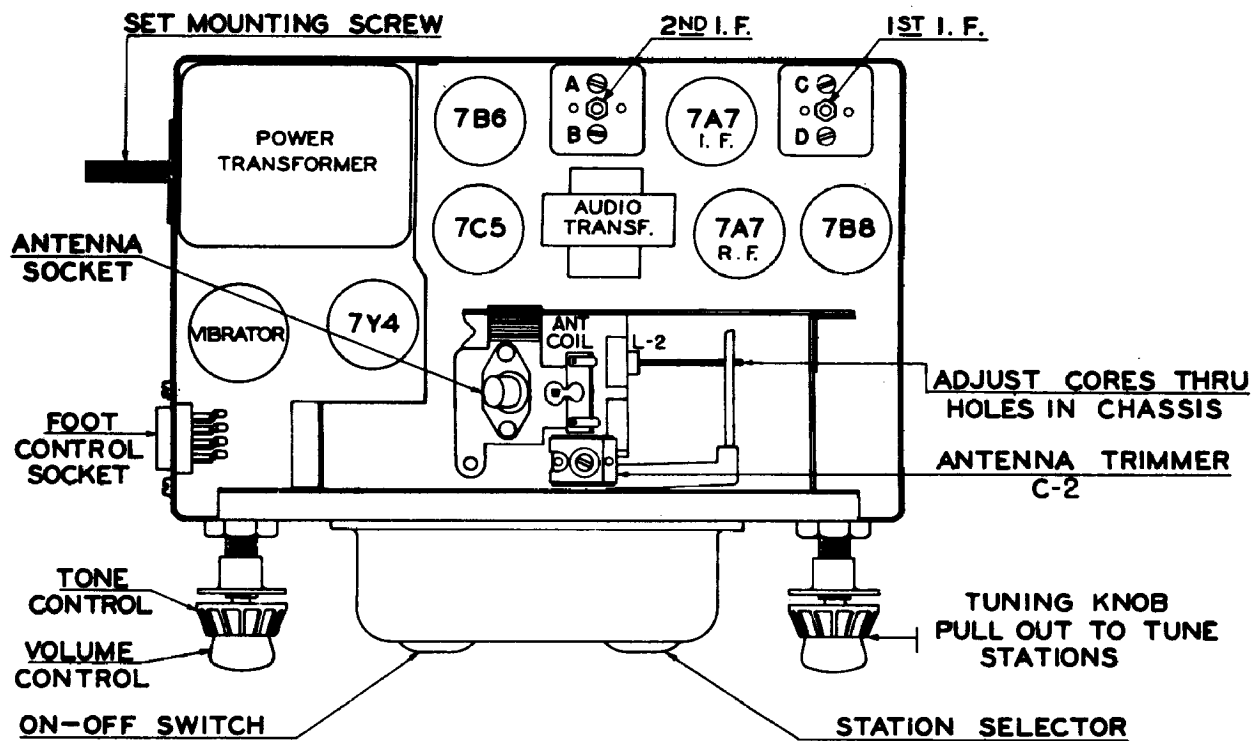
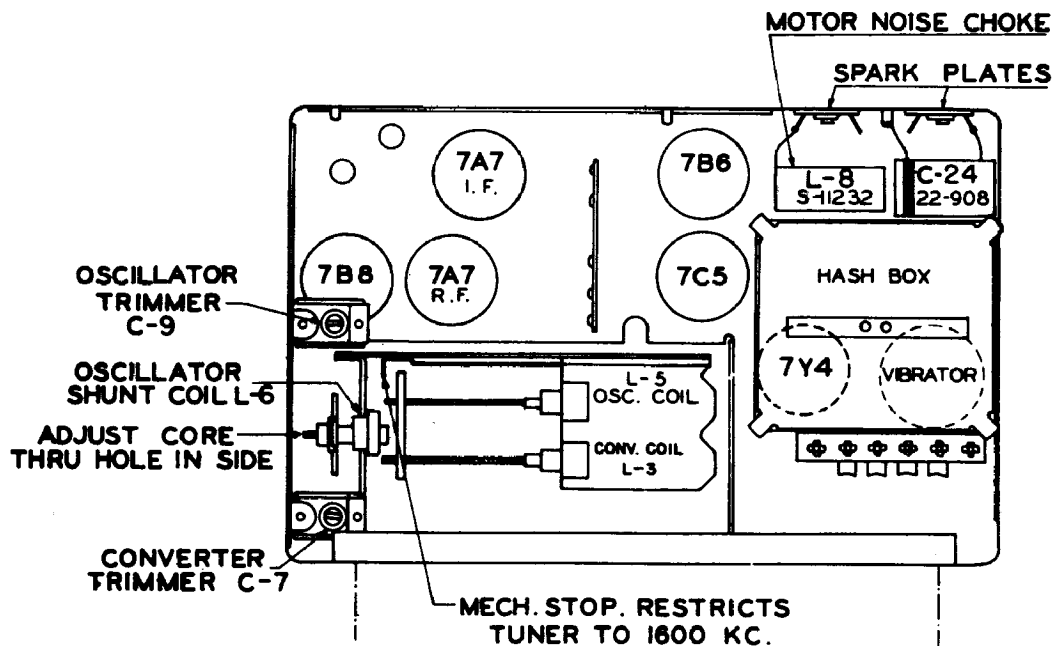

Fig. 9. Top View of Chassis
Fig. 10. Bottom View of Chassis
4. Adjust I.F. trimmers A, B, C and D (Fig. 9), in the order named for maximum output. Repeat the operation to assure accurate alignment.
4. Adjust oscillator trimmer C-9 (Fig. 10) for maximum response.
7. Adjust converter trimmer C-7 (Fig. 10) and antenna trimmer C-2 (Fig. 9) for maximum response.
6. Adjust oscillator trimmer C-9 (Fig. 10) at 1700 Kc.
7. Adjust converter trimmer C-7, and antenna trimmer C-2 (Fig. 9 and 10) for maximum output reading.
10. Adjust oscillator core L-5 (Fig. 10) to scale at 1200 Kc.
11. Adjust the antenna core, L-2 and converter core L-3 (Fig. 9 and 10), for maximum output reading.
13. "Rock in" Shunt oscillator coil L-6 (Fig. 10) for maximum output reading. (This should only be done as a last resort.) This is the same as rocking in the padder condenser on a ganged condenser receiver.